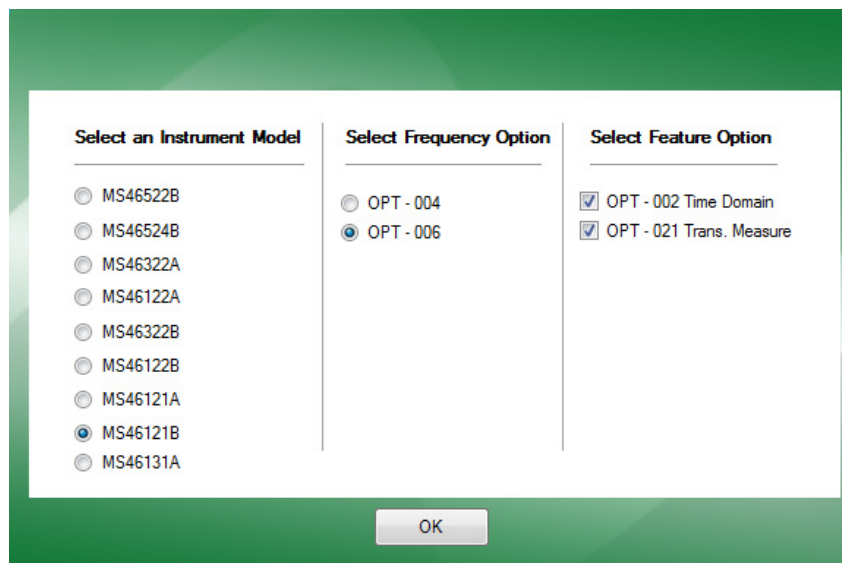

Figure 3-6. Simulator Select Instrument
3. Once Simulation Mode is selected, the default menu screen appears, see Figure 3-6.